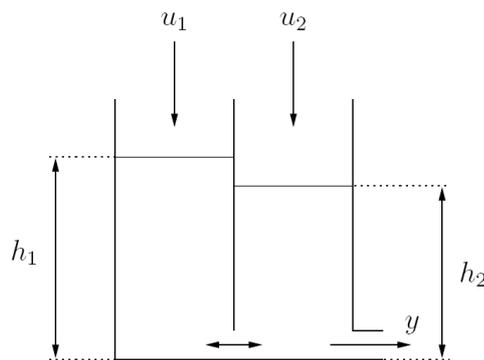

Figure 2.7
- 2.6 Consider a water tank with a separating wall. The wall has a hole at the bottom, as can be seen in figure 2.7.